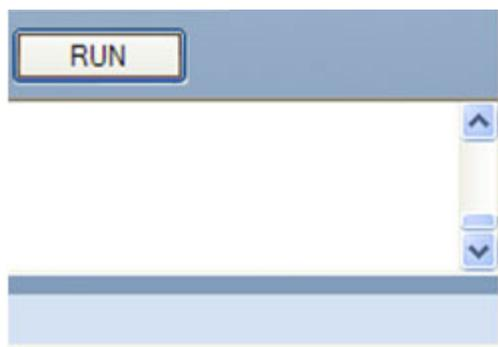

Figure 9-10. RUN/STOP Button
4. Click on the RUN button as shown in Figure 9-10.